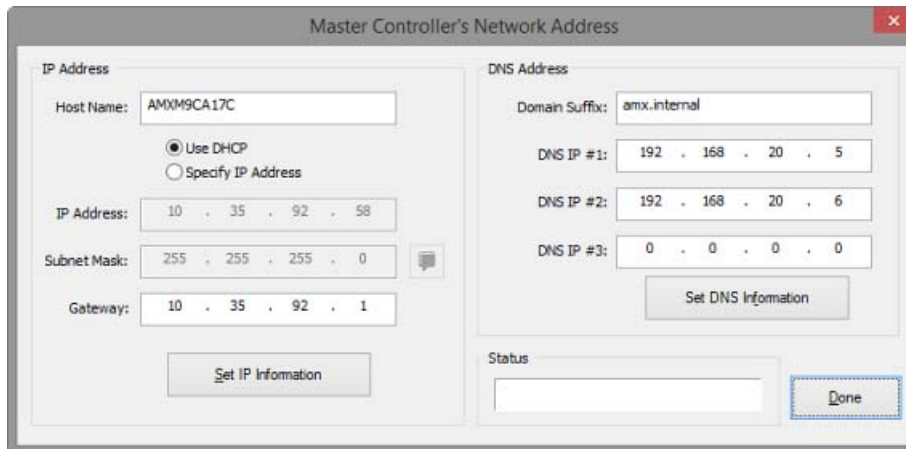

FIG. 33 Master Controller's Network Address dialog
1. Select **Change Master's Network Address** in the *Master Controller Tasks* window to open the *Master Controller's Network Address* dialog (FIG. 33). Note that this command is also available via the Options Menu. The IP and DNS information in this dialog represents the current network address information for the Master.